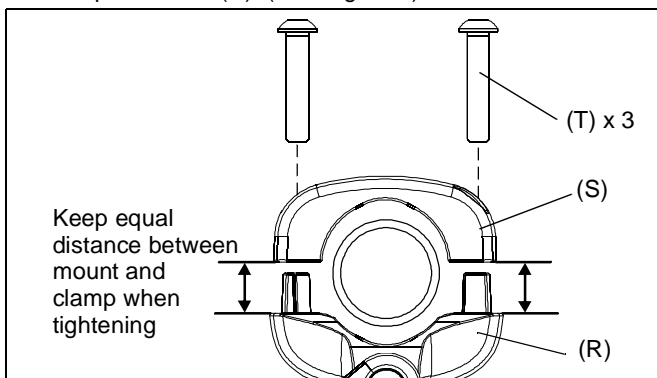

Figure 2
NOTE: Equally tighten screws (T) against pole clamp (S) and pole mount (R). (See Figure 2)